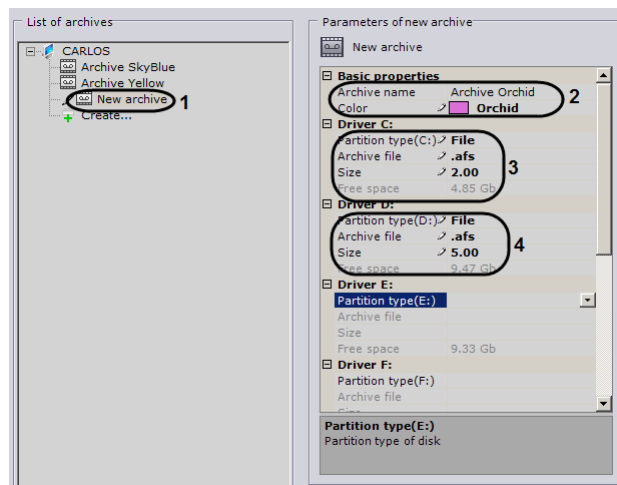

Fig. 6.6—3 Setting archive parameters
3. In the **Basic properties** group (see Fig. 6.6—3, 2), identify the archive: